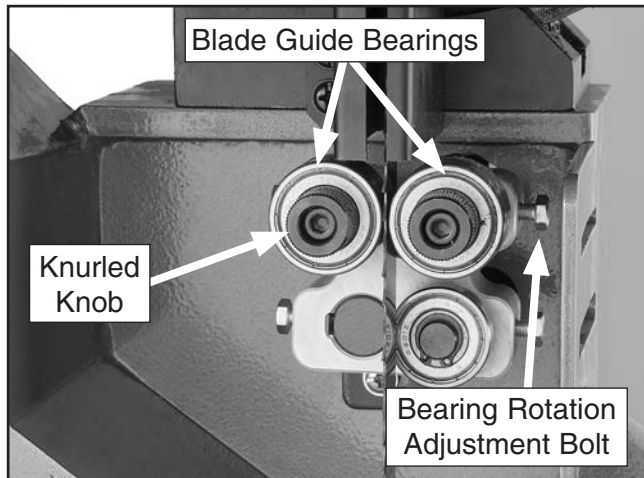

Figure 47. Lower blade guide controls (front view).
3. Familiarize yourself with the blade guide controls shown in **Figure 47**.